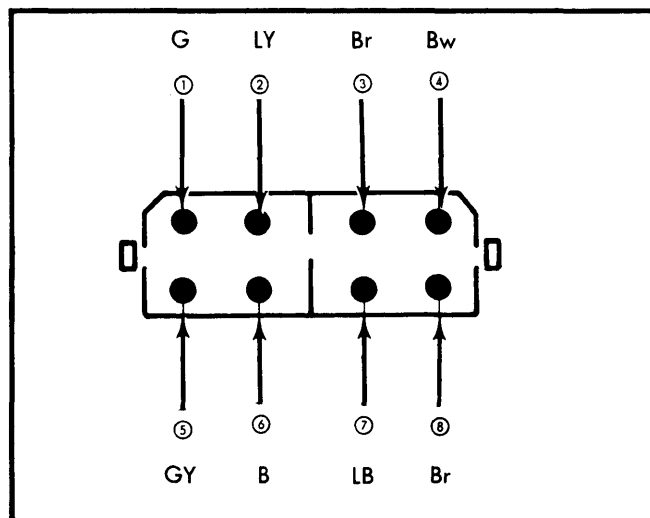

Fig. 2 Coupler Terminal Locations for Testing Choke and Full Choke Switches
2) Continuity should exist between No. 3 and No. 7 terminals when choke knob is pulled out about 0.4" (10 mm). See Fig. 2 for terminal locations.